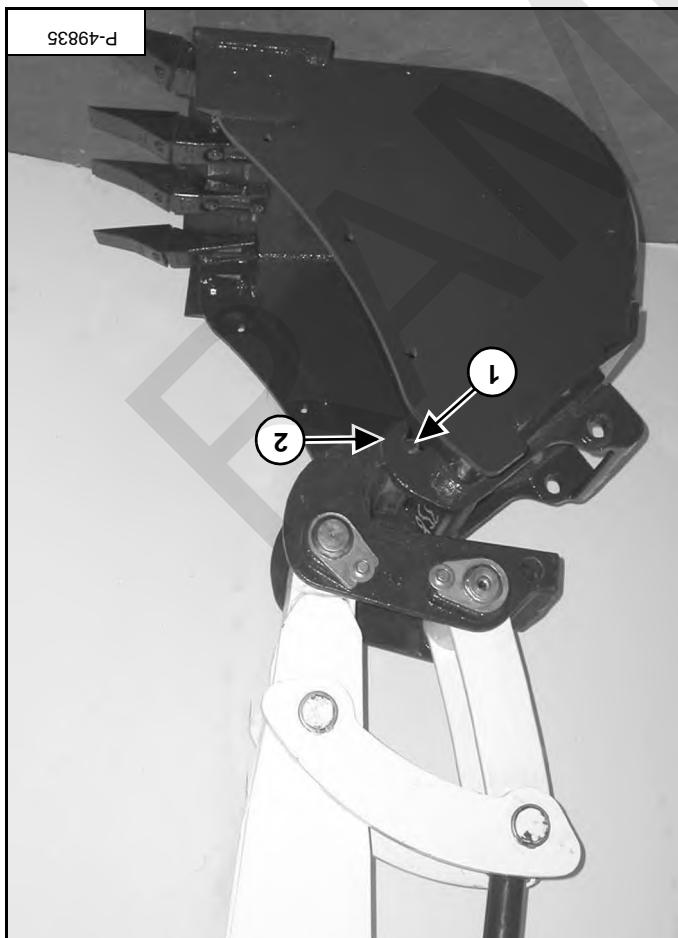

Figure 83
Start the engine and move the arm toward the attachment. Engage the hooks (item 2) [Figure 83] on the attachment. Raise the boom until the pins (item 1) attach the X-change sand into the pin.